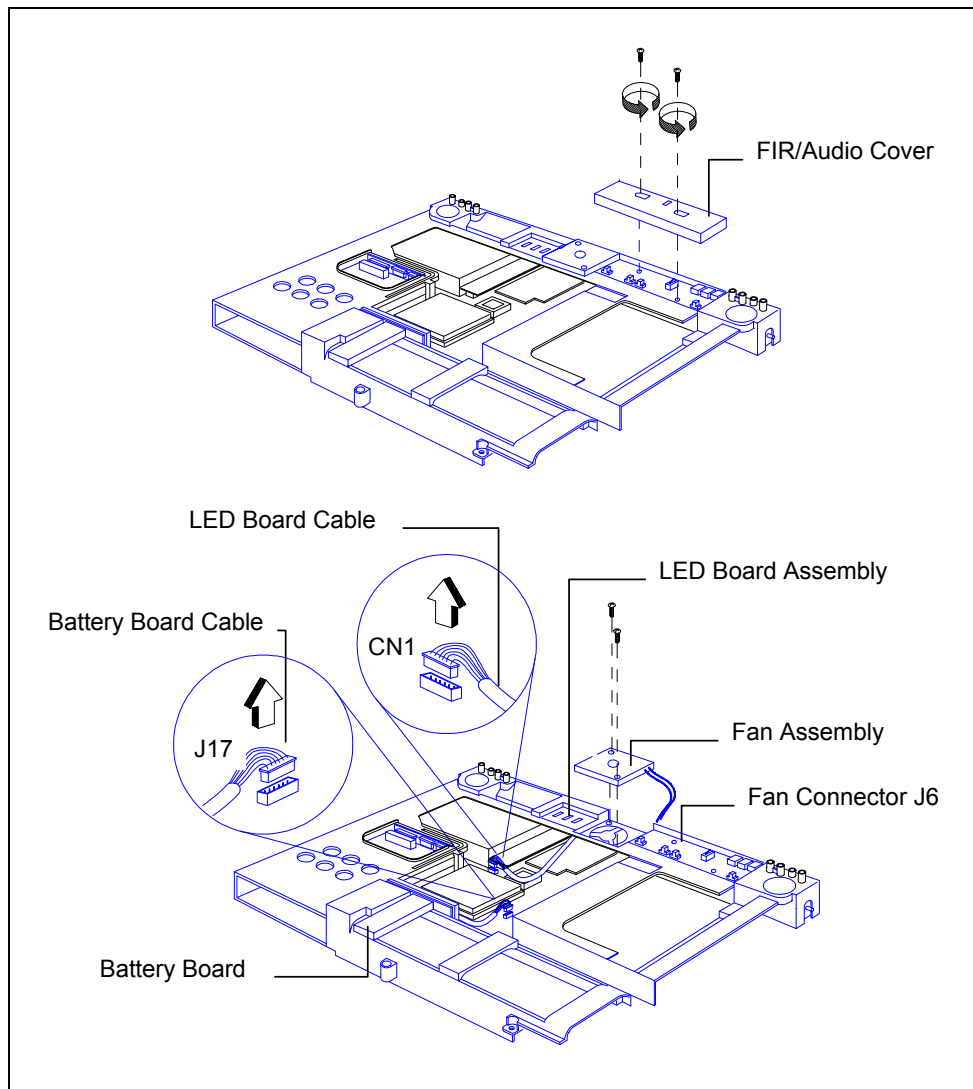

Figure 6-17 Internal Assemblies, Removal/Replacement
3. Remove the two screws holding the fan assembly in place and unplug the fan cable connector J6 from the FIR/Audio Board (refer to Figure 6-17).
2. Disconnect the LED cable from the Main Board (refer to Figure 6-17).
2. Disconnect the Battery Board Cable from the Main Board (refer to Figure 6-17).